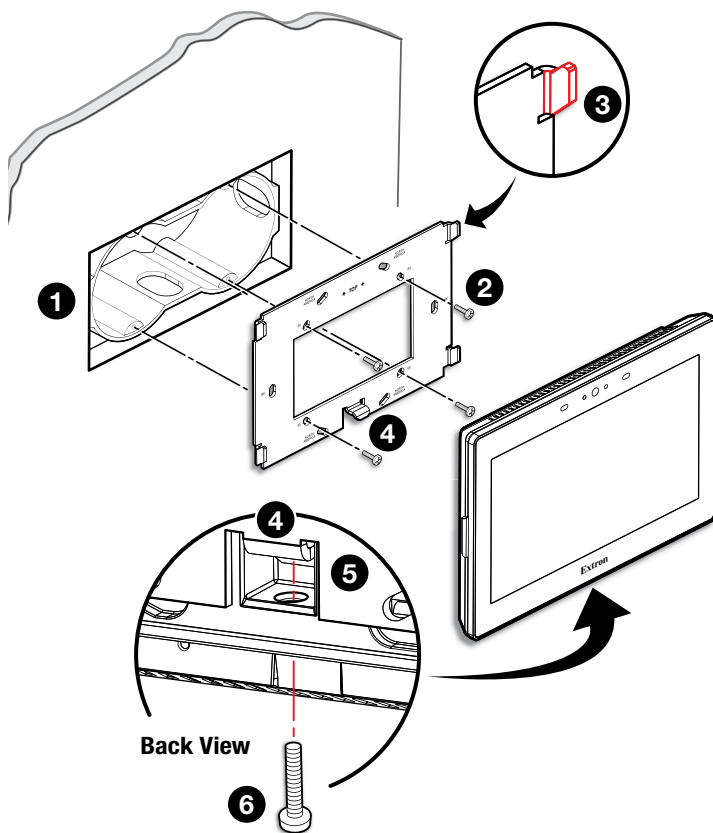

Figure 1. Mounting the Touchpanel with a Junction Box
1. Install a junction box or wall box (see figure 1, ①), following the instructions provided by the manufacturer.
5. Move the touchpanel inward and downward so that touchpanel sits securely on the hooks and the tongue at the bottom of the mounting plate (see inset, figure 1, ④) sits in the groove in the bottom of the touchpanel (⑤).
6. Fasten the touchpanel to the mounting plate with the lock screw (⑥).
4. Secure the mounting plate to the wall (figure 1, ②).
- D Mounting Slots** — Four, one in each corner. The hooks on the corners of the mounting plate (see figure 1, 3, on the previous page) fit into these slots for wall mounting.
- J Slot for Mounting Plate** — The tongue at the bottom of the mounting plate (see figure 1, 4, on the previous page) fits into this slot, for wall mounting.